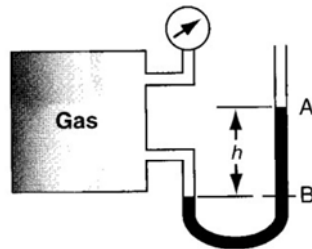

Figure SAT5.3P2
5. A Bourdon gauge and a mercury manometer are connected to a tank of gas, as shown in Figure SAT5.3P2. If the reading on the pressure gauge is 85 kPa, what is h in centimeters of Hg?